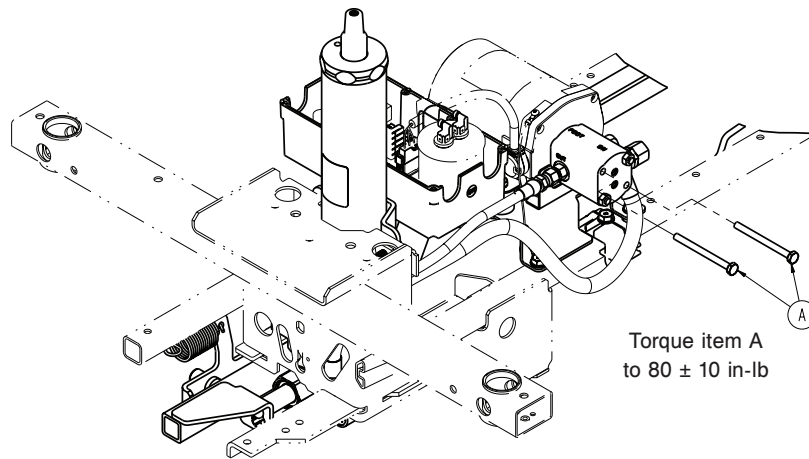

Figure 13 – Screws securing foot end pump to pump motor
6. Using a 7/16" socket with a 3/8" drive 6" extension and a 3/8" drive ratchet, remove the two hex washer head screws (A) that secure the foot end pump to the pump motor (Figure 13). Lower the pump to the floor.